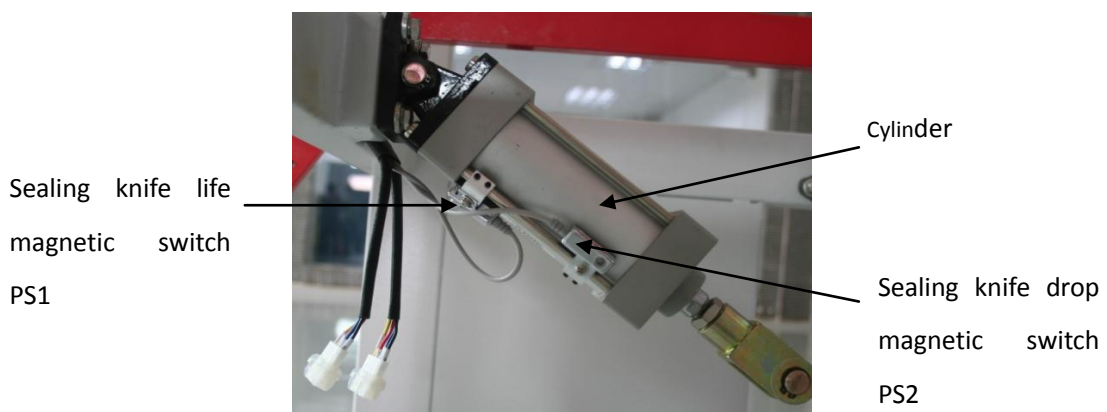

Figure 6.5
(3) working principle:
A. As shown in Figure 6.5, the cylinder is driven by the connecting mechanism to promote the sealing device to carry out the scissor-type sealing action . The cylinder has a sealing knife to drop the magnetic switch PS2. When the piston of the cylinder reaches the stroke position where the PS2 is located, a safety sealing signal is generated. Allow the piston to continue to run to the cylinder bottom point to complete the sealing action. The sealing time is over and the piston returns.